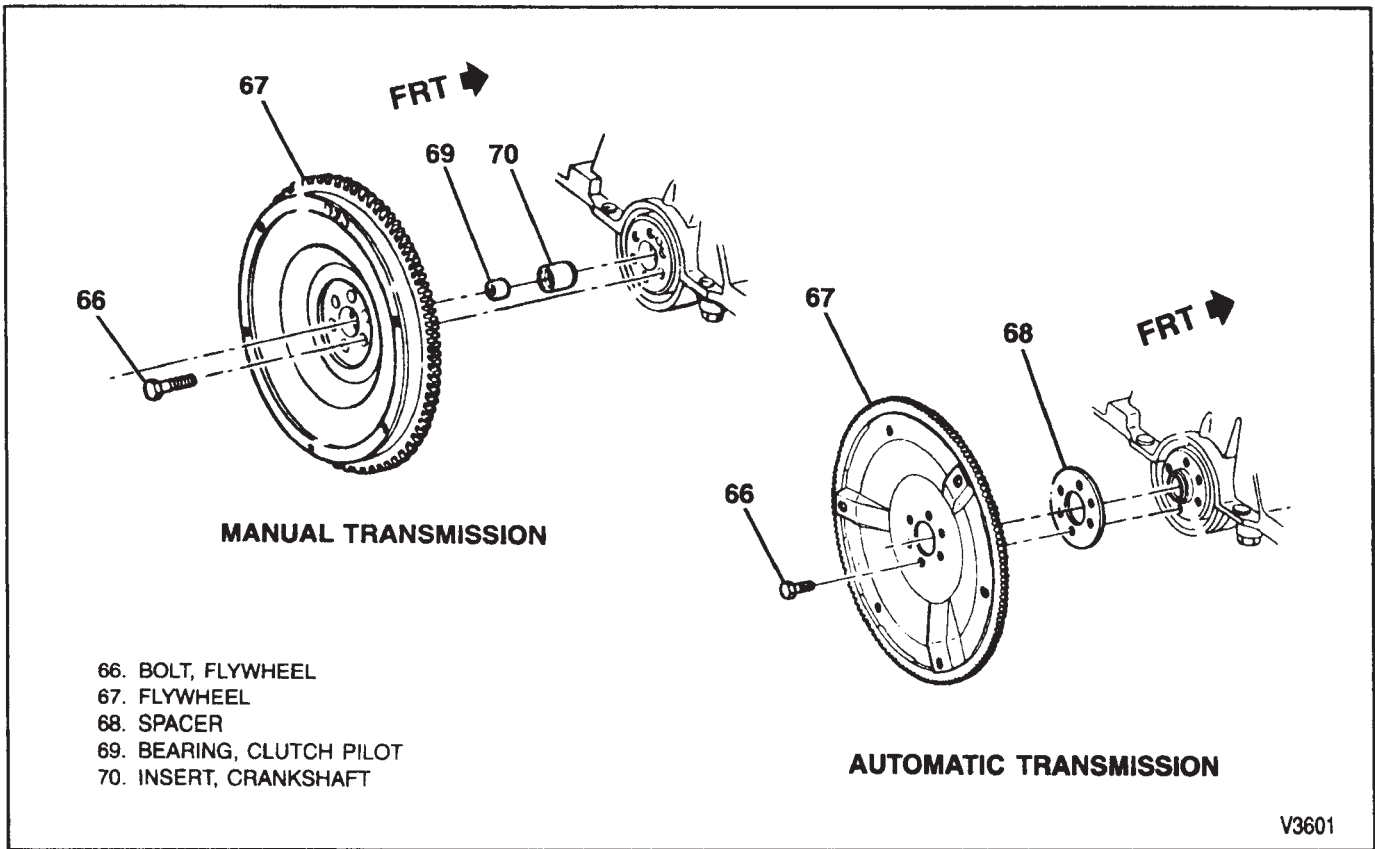

Figure 29—Flywheel and Components
**Remove or Disconnect (Figure 29)**
**Install or Connect (Figure 29)**